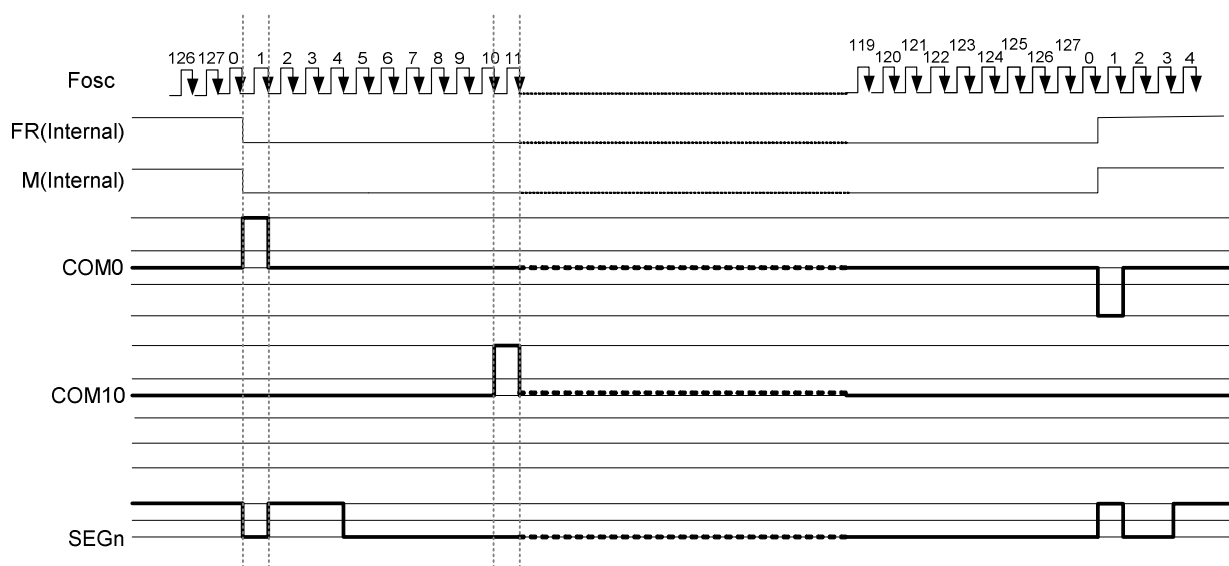

Figure 6 2-frame AC Driving Waveform (Duty Ratio: 1/128)
This circuit generates some signals to be used for displaying LCD. The display clock, which is generated by oscillation clock, generates the clock for the line counter and the signal for the display data latch. The line address of on-chip RAM is generated in synchronization with the display clock and the display data latch circuit latches the 128-pixels display data in synchronization with the display clock. The display data, which is read to the LCD driver, is completely independent of the access to the display data RAM from the microprocessor. The display clock generates an LCD AC signal (M), which enables the LCD driver to make an AC drive waveform, and also generates an internal common timing signal and start signal to the common driver. The frame signal or the line signal changes the M by setting internal instruction. Driving waveform and internal timing signal are shown in Figure 6.